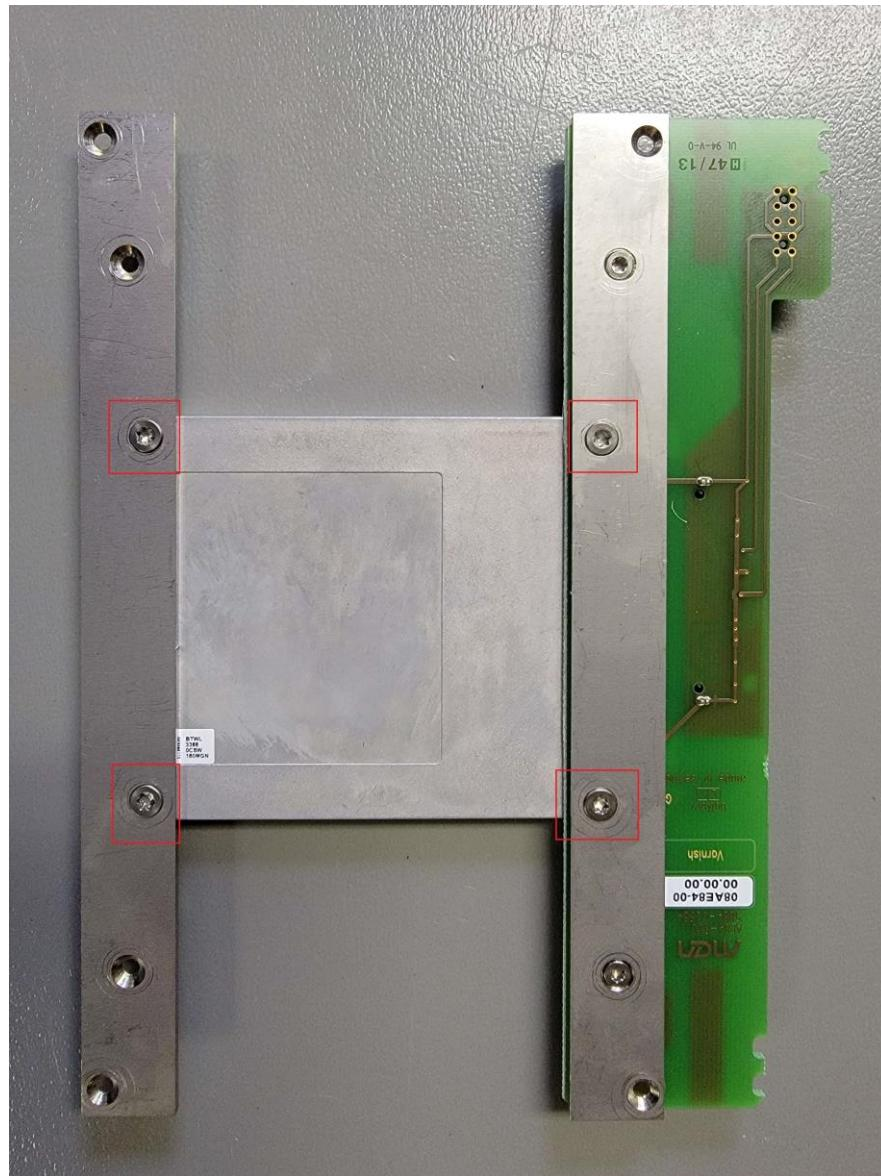

Figure 8-29: CCU / MDS SATA Bridge with T8 Screws
4. Remove the (2) T8 screws that connect the hard drive to the SATA bridge and remove the (2) T8 screws that connect the solid state drive to the mounting bracket. See Figure 8-29.